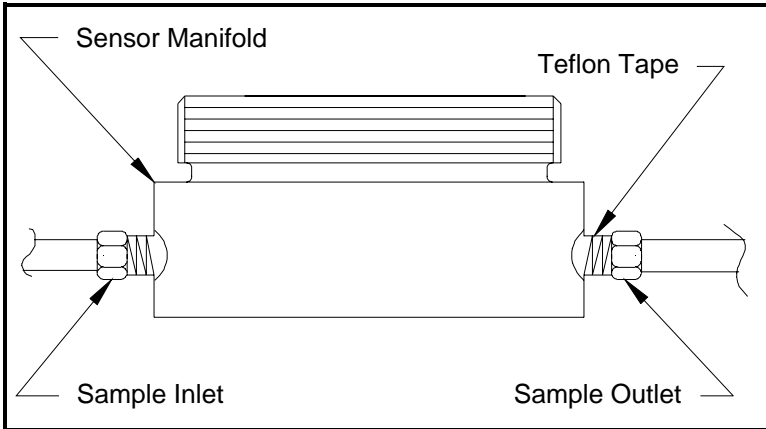

Figure 4: Sensor Manifold Installation
- Using Teflon tape as a sealant, connect the sample gas inlet and outlet to the 1/8" NPT ports on the sensor manifold (see Figure 4 below). Either port may be used as the inlet or the outlet; the direction of flow does not matter.
5. Open the airtight package (see Figure 4 on page 5) and remove the oxygen sensor from the package. To maintain the oxygen sensor's energy level, remove the red grounding tab and **immediately** proceed to the next step.